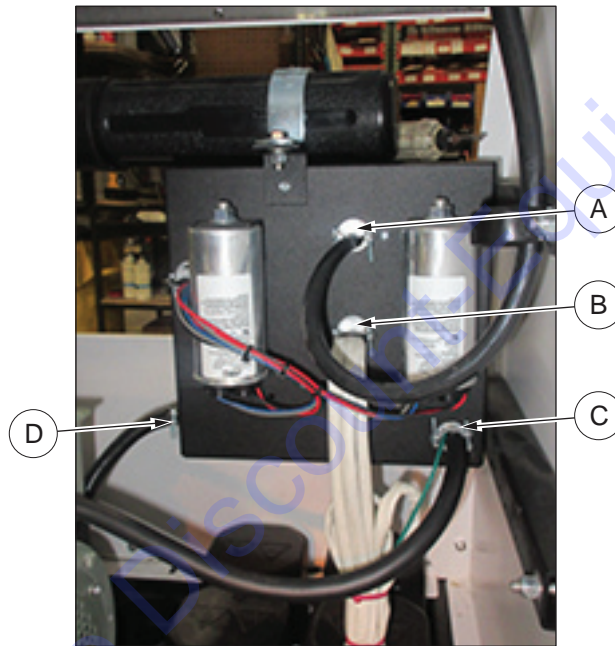

Figure 13 - Control Box Strain Reliefs
6. See *Figure 13*. On back of control box, loosen the upper and middle strain reliefs.